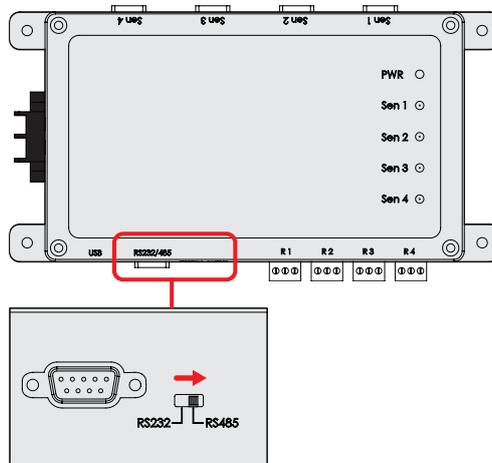

Figure 12. Changing control box output to support RS485 connection
- 5. Select the Serial output Switch on the control box (refer to Figure 12) to RS485.